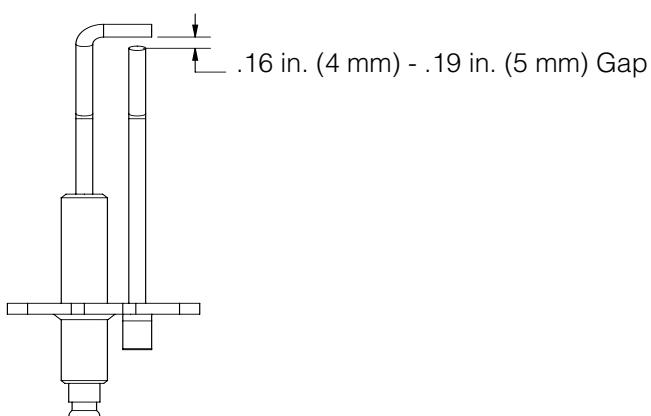

Figure 18-2: Ignitor/Flame Sensor Spark Gap
- Verify ignitor/flame sensor spark gap is within range shown in Figure 18-2.